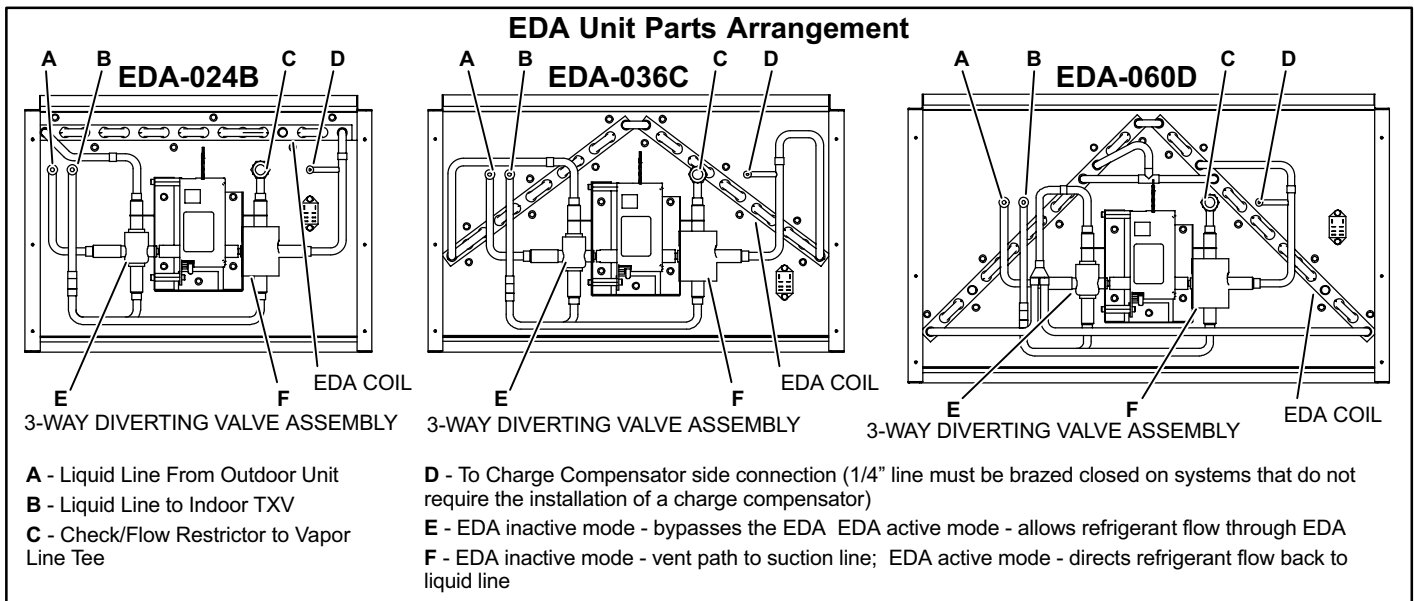

Figure 3
Valve Assembly—The first valve of the diverting valve assembly (figure 3, E) directs the flow of refrigerant to either bypass the EDA coil (EDA coil is inactive) or pass through the EDA coil (EDA coil is active). The second valve (figure 3 F) directs the flow of refrigerant back to the liquid line when the first valve (E) allows flow through the EDA coil. When the EDA coil is inactive, the second valve (F) provides a vent path to the suction line, draining the EDA coil and charge compensator of liquid refrigerant.